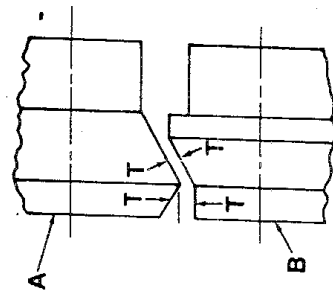

Fig. 3
3. The upper roll should be lowered just enough to break through the metal, about 1/32" (see Fig. 3). Find this setting with a piece of scrap material and set jam nuts on crankscrew accordingly. (An extra set of cutters makes it possible to sharpen one set without interrupting work schedule.) See paragraphs on INSTALLATION and OPERATION OF CIRCLE CUTTING ATTACHMENT on Page 5.
Install rolls as described in paragraph CHANGING ROLLS. The upper roll is properly adjusted when one thickness of material can be inserted between the flanging rolls at points "T" as illustrated in Figure 3. The two nuts on the crankscrew should be locked in place to prevent the rolls from being adjusted closer than one thickness of material. See the paragraphs on INSTALLATION & OPERATION OF CIRCLE FLANGING ATTACHMENT on Pages 6 & 7.